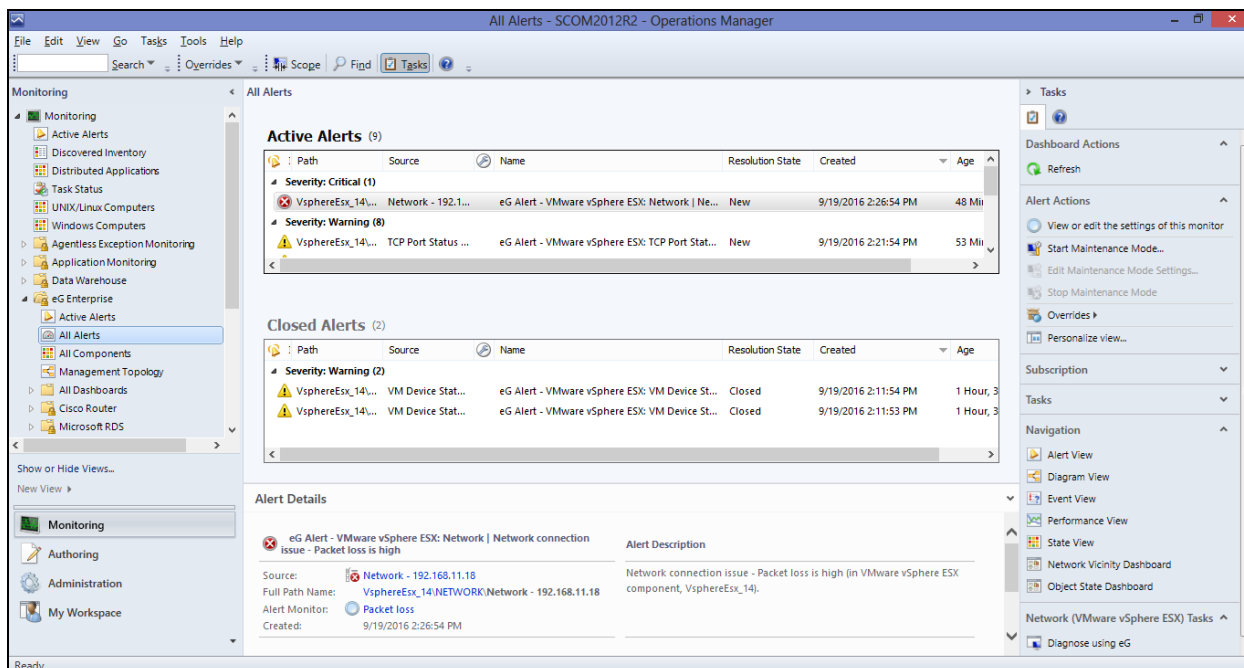

Figure 3.7: The All Alerts view
- The right dashboard panel will then display all alerts that were raised on the eG-managed components (see Figure 3.7). Here again, the alerts will be grouped by severity. Also, like in the **Active Alerts** view, each alert in the **All Alerts** view will display the alert **Path**, **Source**, **Name**, **Resolution State**, **Created** date/time, and **Age**, by default. If one/more problems were resolved, then the **Resolution State** of such alerts will be **Closed**. **Closed Alerts** will be displayed in a separate section in the alerts view. The **Closed Alerts** section will display alerts on the basis of the following criteria: "View all alerts with Closed(255) resolution state". New alerts will be displayed on the basis of the following criteria: "View all alerts with New(0) resolution state".